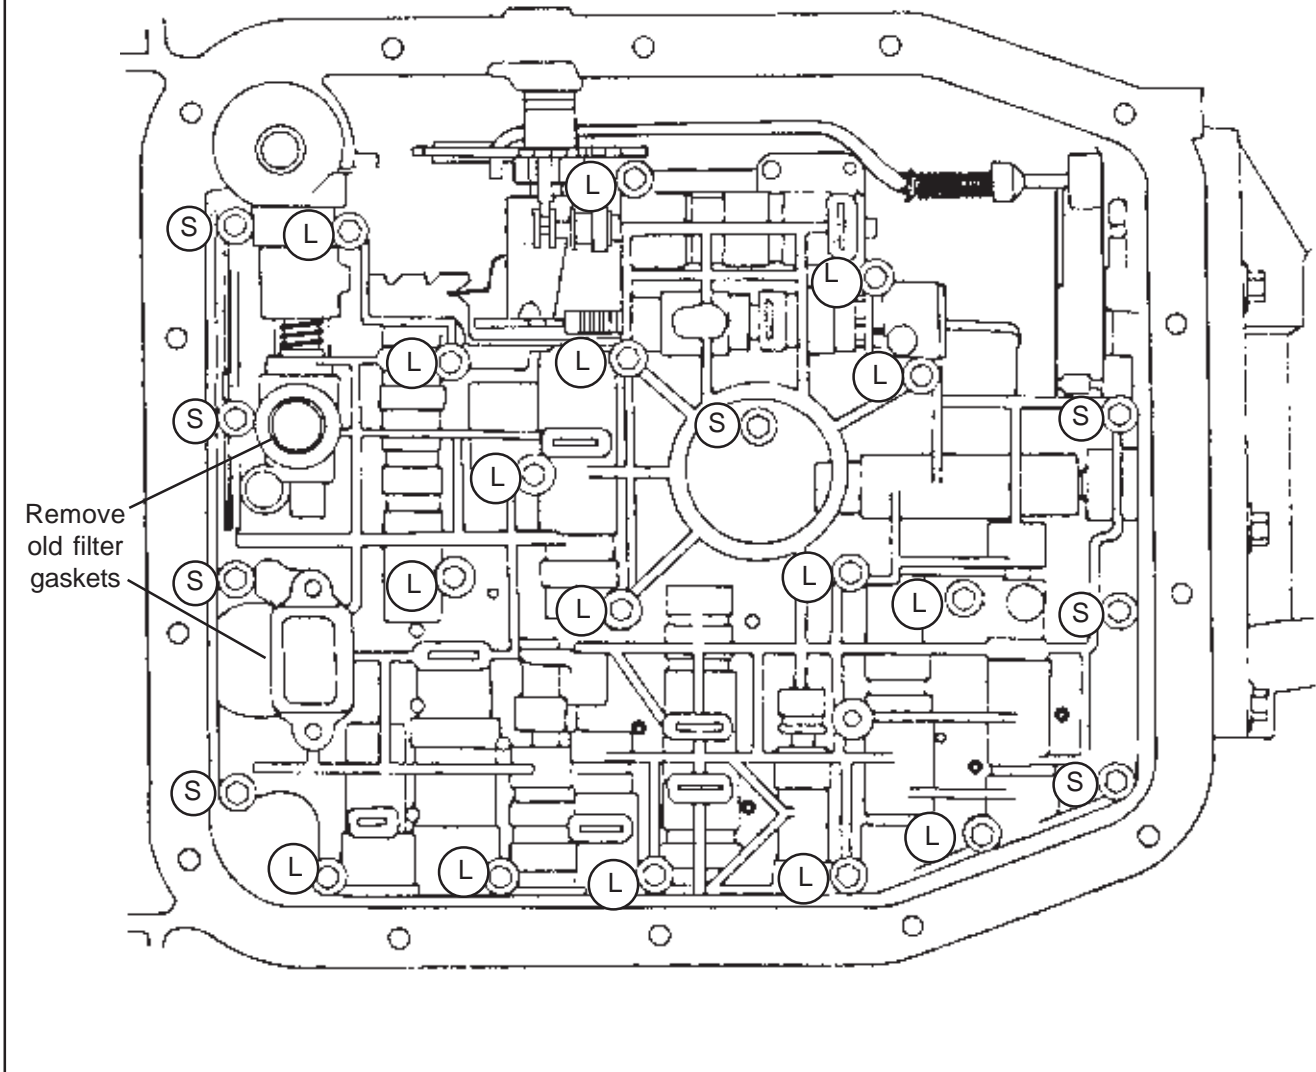
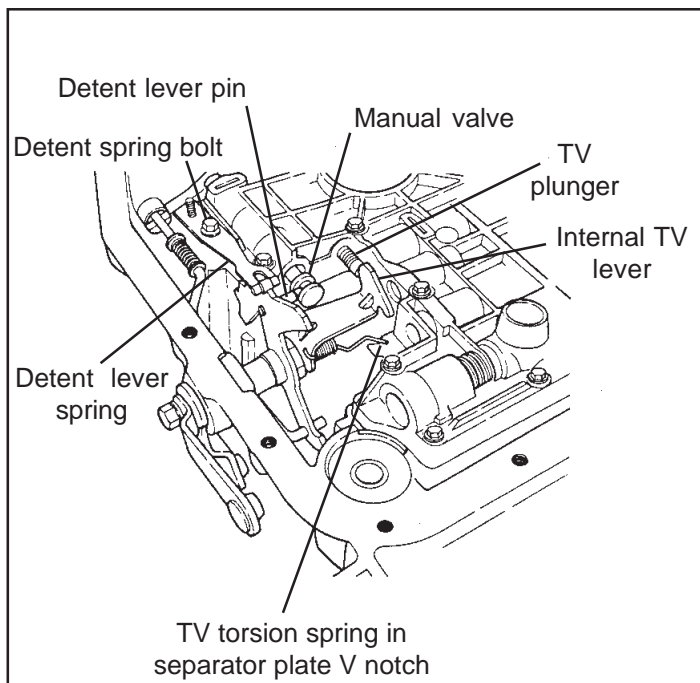

Figure 1
Figure 7
Remove the filter grommet and gasket material from valve body. (See Figs. 1 & 2.)
STEP 3. Remove all of the valve body bolts **except** one near the center (See Fig. 1). Hold valve body up
STEP 18. Install valve body up to case being careful to align manual valve with pin in detent plate (See Fig. 7). You also have to manually engage the TV lever between the valve body and TV plunger. **DO NOT** try to force the valve body into place, it will go right into place with a little patience. With the valve body **sitting flush** against the case install (1) bolt to hold the valve body in place. Make sure the detent plate pin and internal TV lever are properly positioned then install (8) short M6x30mm (1.16") and (16) M6x40mm (1.56") shoulder bolts (See Fig. 1). Remove the alignment pins only after all but the last two bolts have been installed. Install **ALL** bolts **FINGER TIGHT**. The short bolts are installed (4) in front (1) in center and (3) in rear of valve body.
STEP 19. Position the TV torsion spring against the separator plate 'V' notch (See Fig. 7). The TV torsion spring pushes the TV lever against the TV plunger.